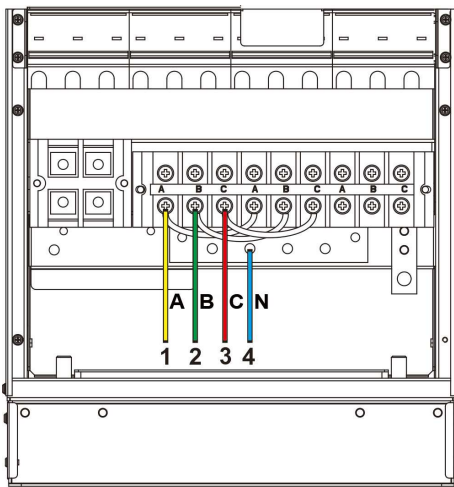
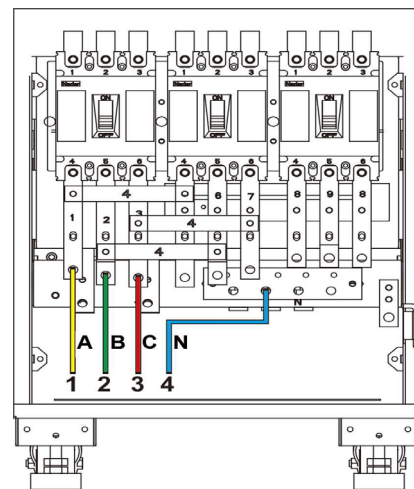

Fig. 3-18 Connect AC input cable (60 kVA)
Fig. 3-19 Connect AC input cable (80/100/120/160/200 kVA)
Step 2: Connect the AC input cables successively to distribution terminal A, B, C and N of, as shown in Fig. 3-18 and Fig. 3-19.